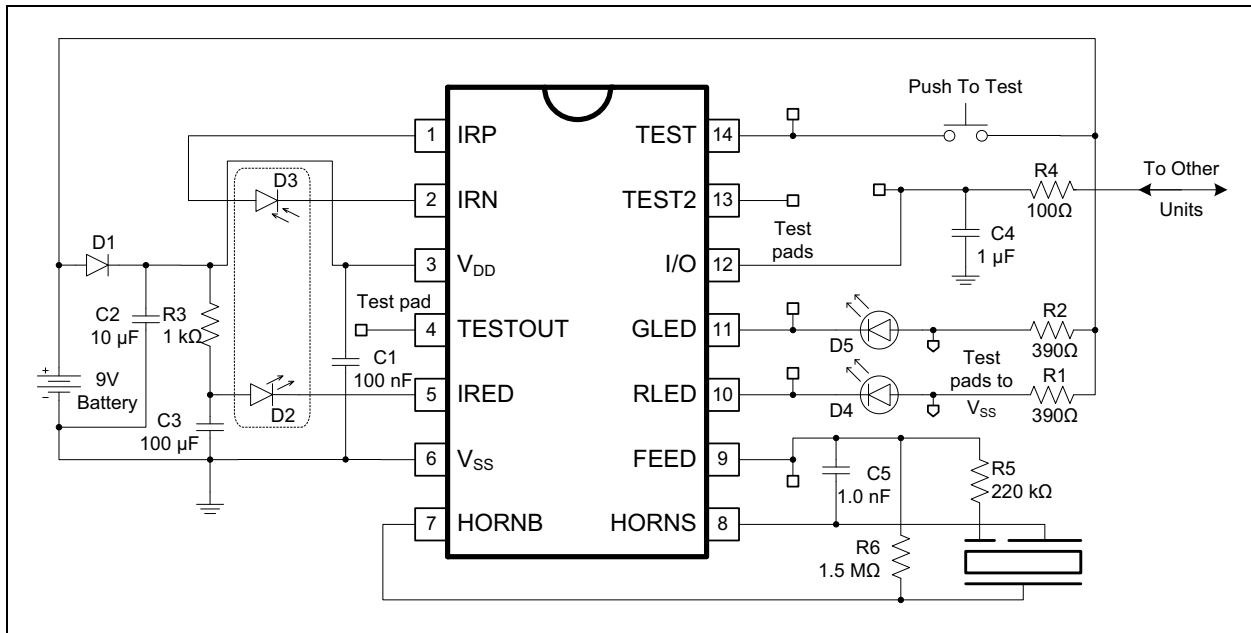

FIGURE 4-1: Nominal Application Circuit for Programming.
Figure 4-1 shows the typical application circuit with special probe pads for test modes. Logic Inputs are FEED, IO, TEST2, and TEST. They all need to have driven inputs on these nodes in the test modes. TESTOUT is a digital output. RLED, and GLED are analog outputs.
1. Power-up with the bias condition shown in Figure 4-1 to enter M0. At power-up, TEST = IO = FEED = TEST2 = V_{SS} .
1. Power up with the bias condition shown in Figure 4-1 to enter M0. At power-up, the 4 input pins TEST = IO = FEED = TEST2 = V_{SS} . TESTOUT is the serial output.